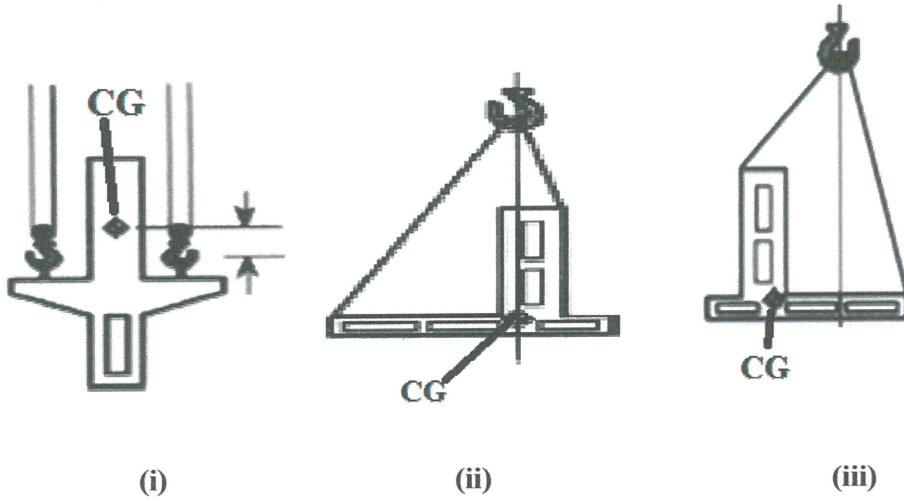

FIGURE Q5(a)
- Q5** (a) Before lifting any goods, it is vital that the load is stable to avoid any movement when the lifting process starts. Review the **FIGURE Q5(a) (i),(ii), (iii)** and identify which load/s is/are stable and which is/are not. Justify your answer. (6 marks)